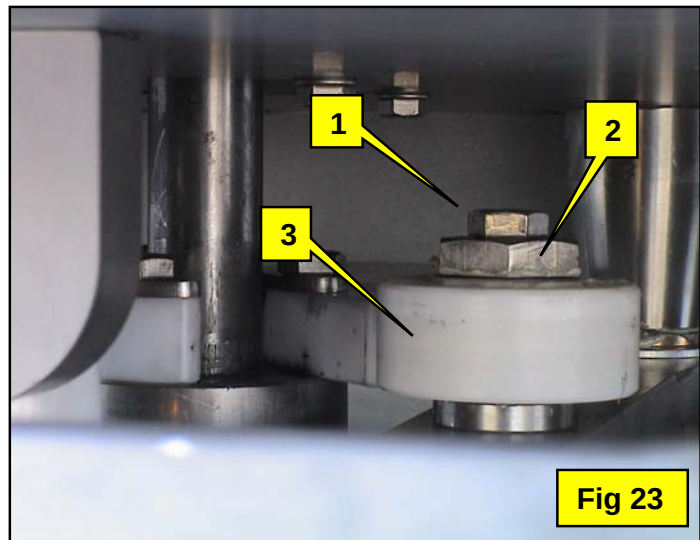
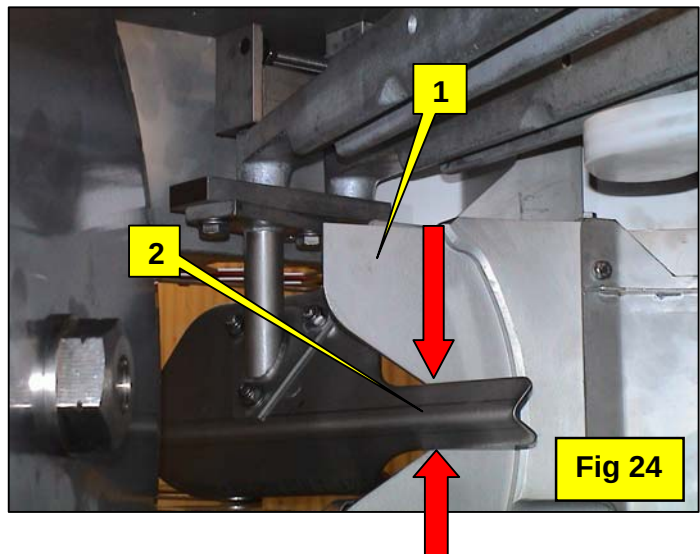

Fig 23
Fig 24
Loosen do not remove the hexagon head bolt (fig.23 item 1).
Adjust the back plate (fig.24, item 2) position by turning the excentric bushing (fig.23 item 2) for the back-plate cam roller (fig. 23 item, 3).
The clearance of the back plate to the transport should be approximately 10mm (3/8") (fig.24).
Re-tighten the hexagon head bolt (fig.23 item 1)
It is important to verify that the proximity switch is correctly located in the holder (fig.23 item 2) prior to adjustment.